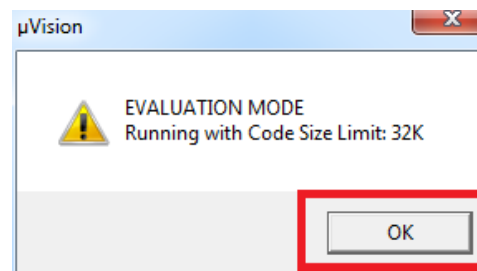

Figure 1.7: Keil IDE: Evaluation Mode Code Size Warning Dialog Box
4. Click OK when you are prompt with the code size limit of 32K in evaluation mode warning dialogue box (see Figure 1.7).
5. Click OK when you are prompt with the code size limit of 32K in evaluation mode warning dialogue box (see Figure 1.7).